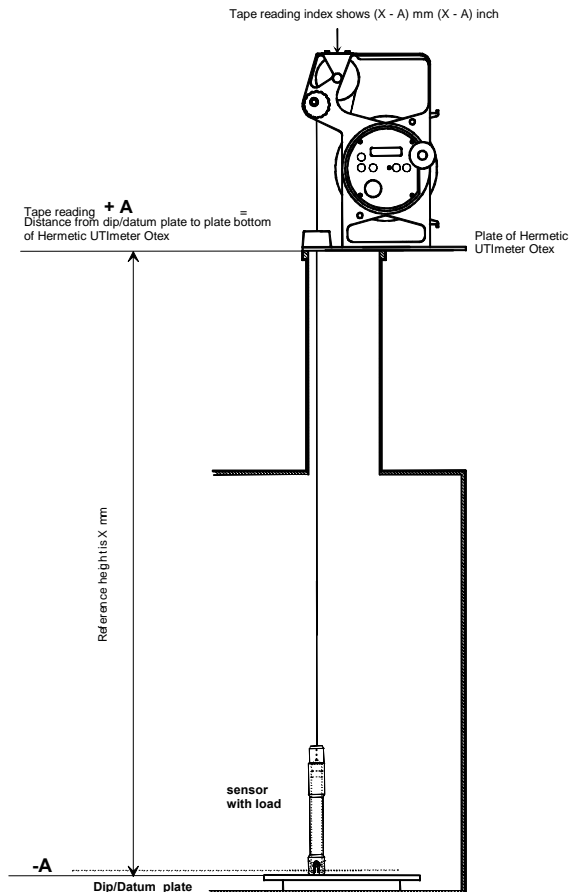

Figure 7-11
- When the sensing probe comes in contact with the dip/datum plate record the distance shown on the reading index. See Figure 7-11. The exact distance from the plate to the reading index is (reading + 6 mm) or (reading +1/4" approx.) which is the reference height providing the reading index level has been adjusted to the zero ullage level of the tank. If the tank zero ullage is levelled above or below the reading index, an additional correction shall apply.